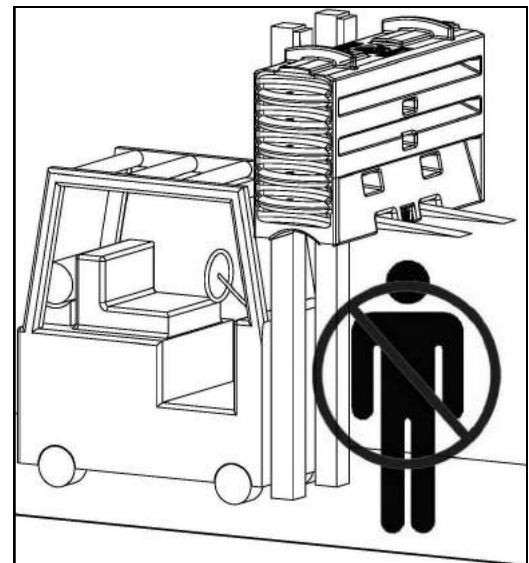

Figure 16: Proper Forklift Procedure
Do not drive with two (2) or more filled modules on a forklift. If maneuvering filled modules is necessary using a forklift, only move filled modules one (1) at a time. If the modules are empty, a maximum of three (3) stacked modules may be moved using a forklift. **NEVER STACK MODULES WHEN FILLED.** And most importantly, do not stand underneath or in front of the forklift when handling the modules with a forklift as modules may fall, see Figure 16.